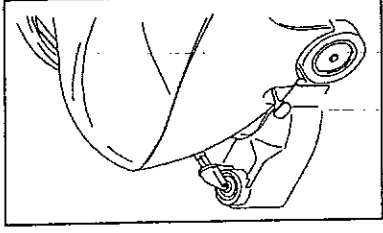

Fig. 9d
- put the unit back into the machine (fig. 9d), in such a way that the wheel fits completely in the brush-cover.